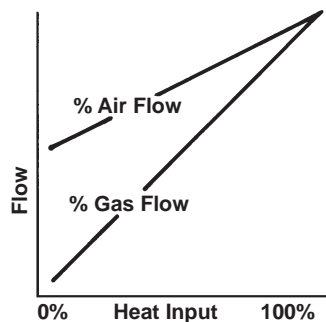

Figure 2. 7216 Regulator control.
**7216 Variable Ratio Regulators** are used with nozzle-mix burners to achieve temperature uniformity while using minimum excess air. Molded diaphragms ensure excellent tracking and repeatability, maximum flows, and superior turndown. A high quality stainless steel spring is used to bias 7216 Regulator air/gas ratio. As air rate is turned down towards low fire, gas rate drops faster, giving increasing percentages of excess air (see Figure 2). Reduced total air means greater fuel economy.